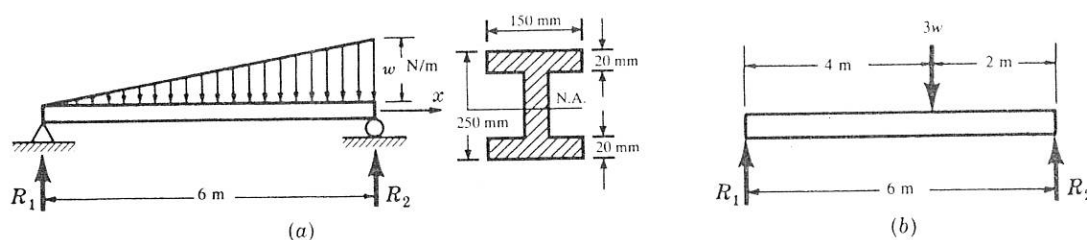

Fig. 8-23
- 8.11.** The simply supported beam shown in Fig. 8-23(a) is subject to a uniformly varying load having a maximum intensity of  $w$  N per meter of length at the right end of the bar. If the beam is a wide-flange section having the dimensions shown in Fig. 8-23, determine the maximum load intensity  $w$  that may be applied if the working stress is 125 MPa in either tension or compression. Neglect the weight of the beam.
The reactions  $R_1$  and  $R_2$  may readily be determined in terms of the unknown  $w$  by replacing the distributed load by its resultant. Since the average value of the distributed load is  $w/2$  N/m acting over a length of 6 m, the resultant is a force of magnitude  $6(w/2) = 3w$  N acting through the centroid of the triangular loading diagram, that is, 4 m to the right of  $R_1$ . This resultant thus appears as in Fig. 8-23(b). From statics we immediately have  $R_1 = w$  N and  $R_2 = 2w$  N.